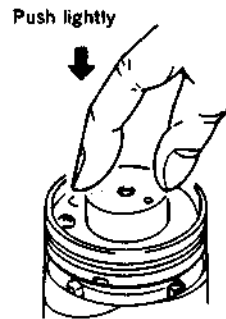

Fig. 4
- (6) Remove the Pinch Roller Arm Assembly in the direction of the arrow. (fig. 4)
- (4) Put the end of the clip to the shaft of the Threading Ring Assembly and install the Pinch Roller Assembly. (fig. 4 and 5)
- (5) Hook the end of the spring to the No. 7 Guide Assembly.